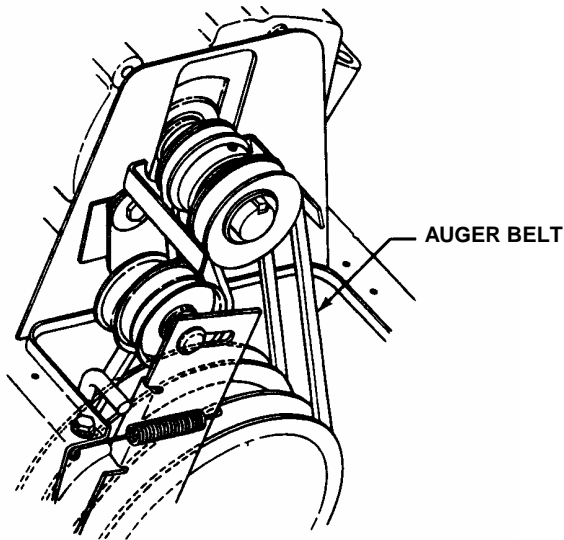

FIGURE 3.1
1. Visually check engine drive belt for cracking, fraying, severed or belt strands exposed. Replace belt before operating snow thrower. See Figure 3.1